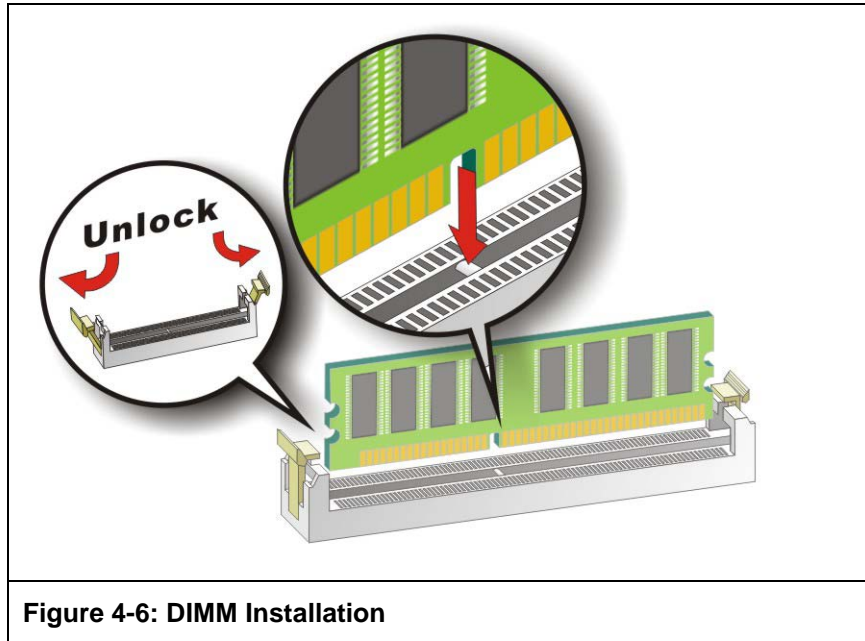

Figure 4-6: DIMM Installation
To install a DIMM, please follow the steps below and refer to **Figure 4-6**.
- Step 1:** Open the DIMM socket handles. Open the two handles outwards as far as they can. See **Figure 4-6**.
- Step 2:** **Align the DIMM with the socket.** Align the DIMM so the notch on the memory lines up with the notch on the memory socket. See **Figure 4-6**.
- Step 3:** **Insert the DIMM.** Once aligned, press down until the DIMM is properly seated. Clip the two handles into place. See **Figure 4-6**.